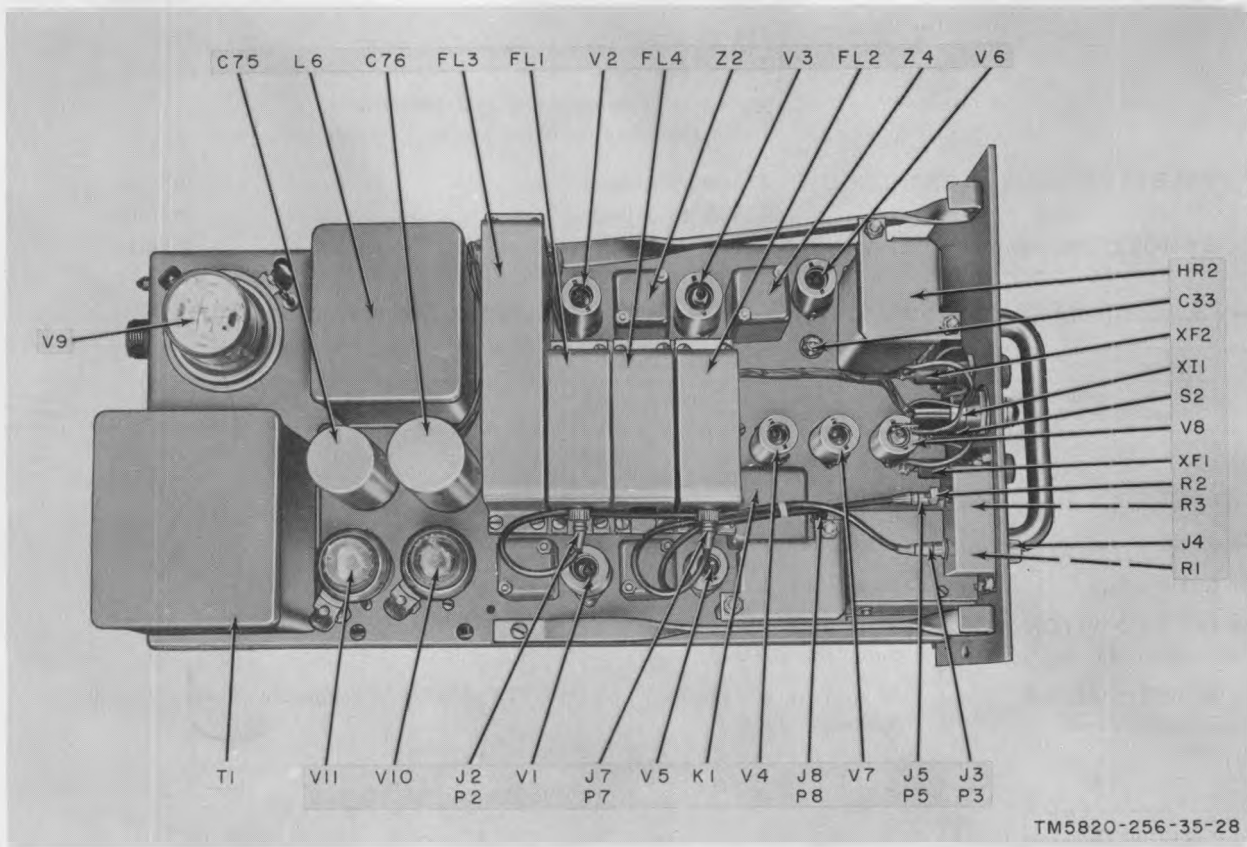
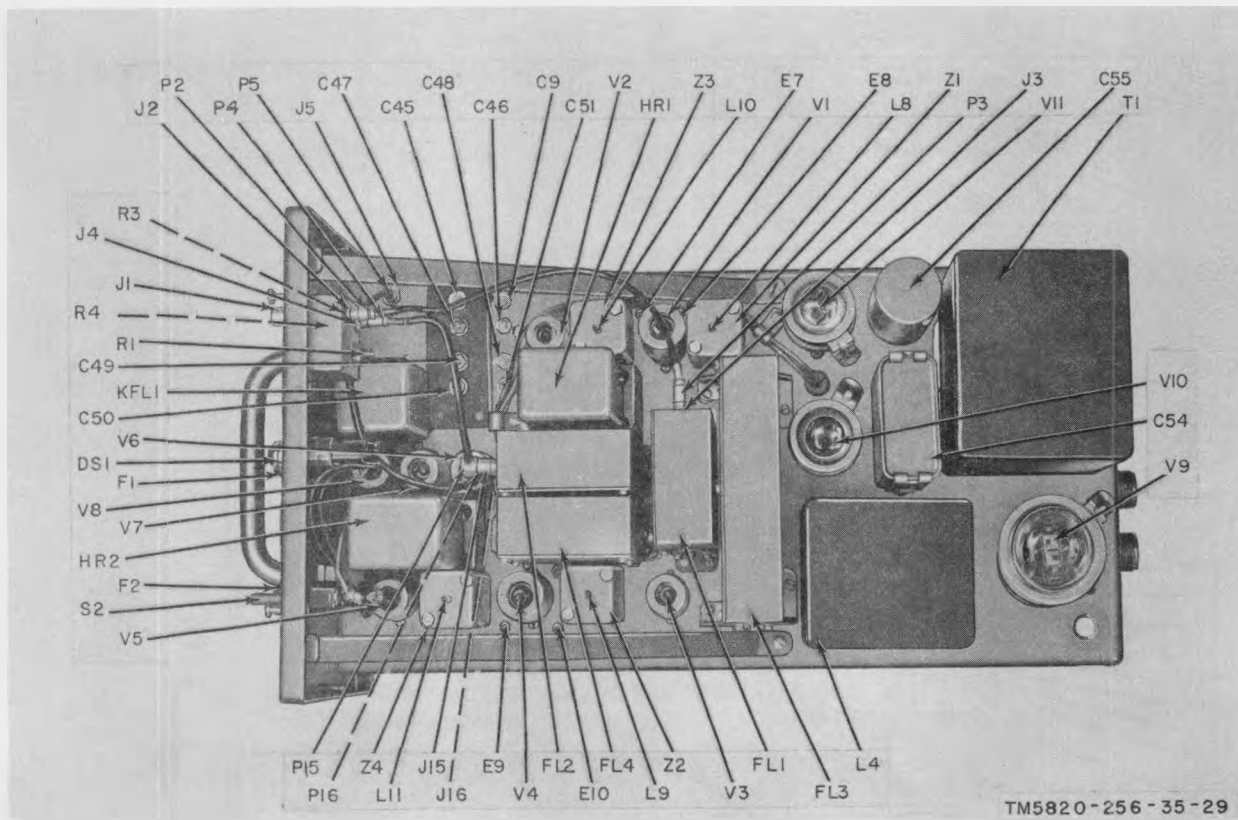

Figure 3-5. Modulator, Radio MD-239/GR, top view, parts location.
Figure 3-10. Modulator, Radio MD-239A/GR, top view, parts location.
a. *Fsk-Modulator.* Figures 3-5 through 3-9 show the location of all parts in the MD-239/GR; figures 3-10, 3-11, and 3-12 show the location of all parts in the MD-239A/GR. Filters FL1 through FL4 and impedance networks Z1 through Z4 each is replaced as a unit. Filter KFL1, 3.2-mc trap, crystal heaters HR1 and HR2 are also replaced as units. Refer to TM 11-5820-256-20 to replace crystal Y1 or Y2.